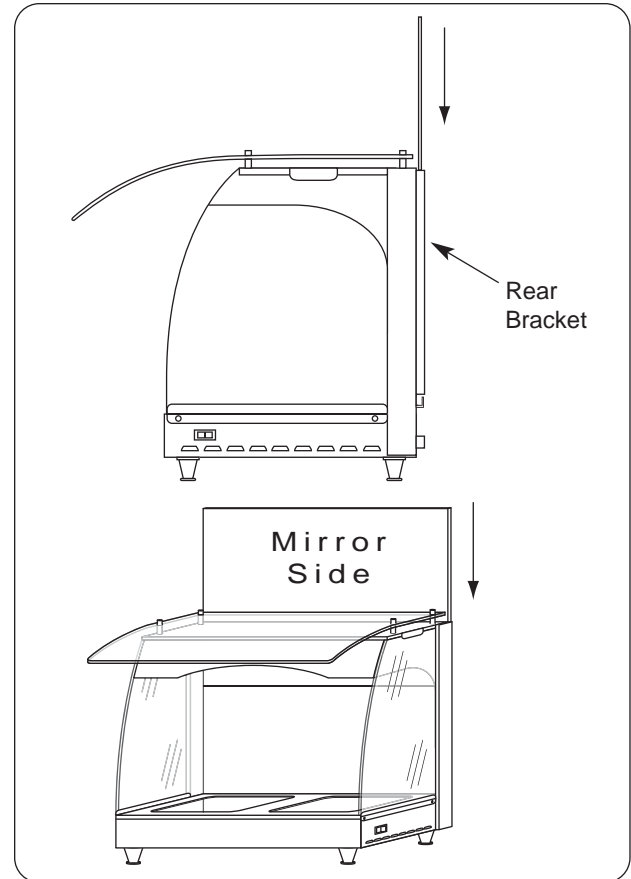

Figure 5. Installing Back Mirror Glass Panel
Installing Back Mirror Glass Panel (See Figure 5)
3. Carefully guide and lower the mirror glass panel into the rear brackets. (See Figure 5.)